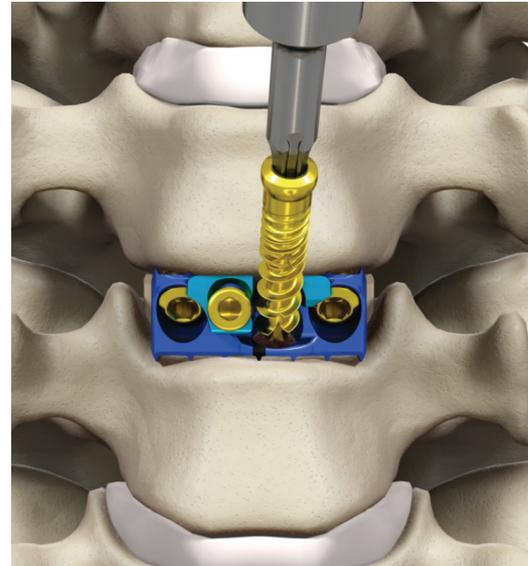

Figure 46
- Attach the inserter guide or use a general surgical instrument to remove the implant through the surgical opening (Figure 46).